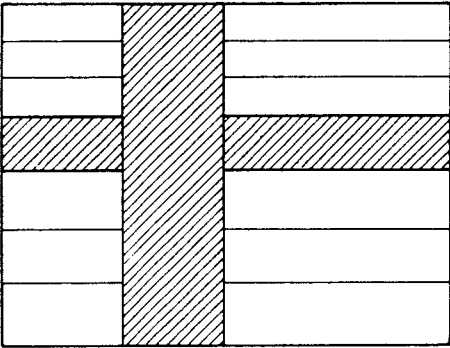

Fig. 29-10
2. Adjust SIDE PIN by turning DA board RV31 as shown in Fig. 29-10.